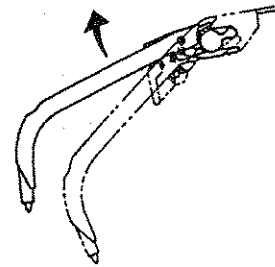

Fig 6.17
- (5) Pens can be removed from the pen holder by lifting the center portion of the cartridge upward (Figure. 6.17).